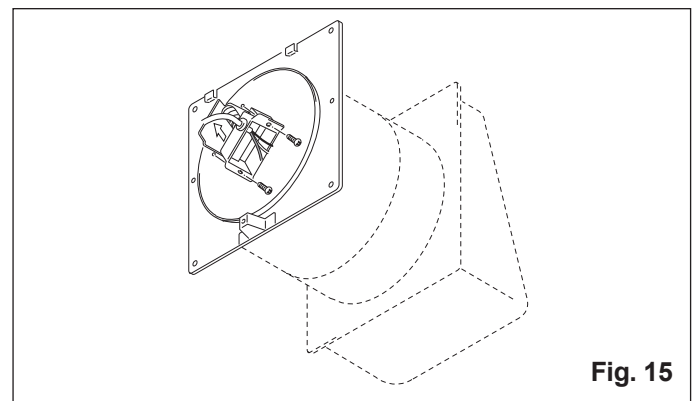

Fig. 15
11. Place the junction box in its original position in the wall sleeve and reattach the box cover. (Fig. 15)